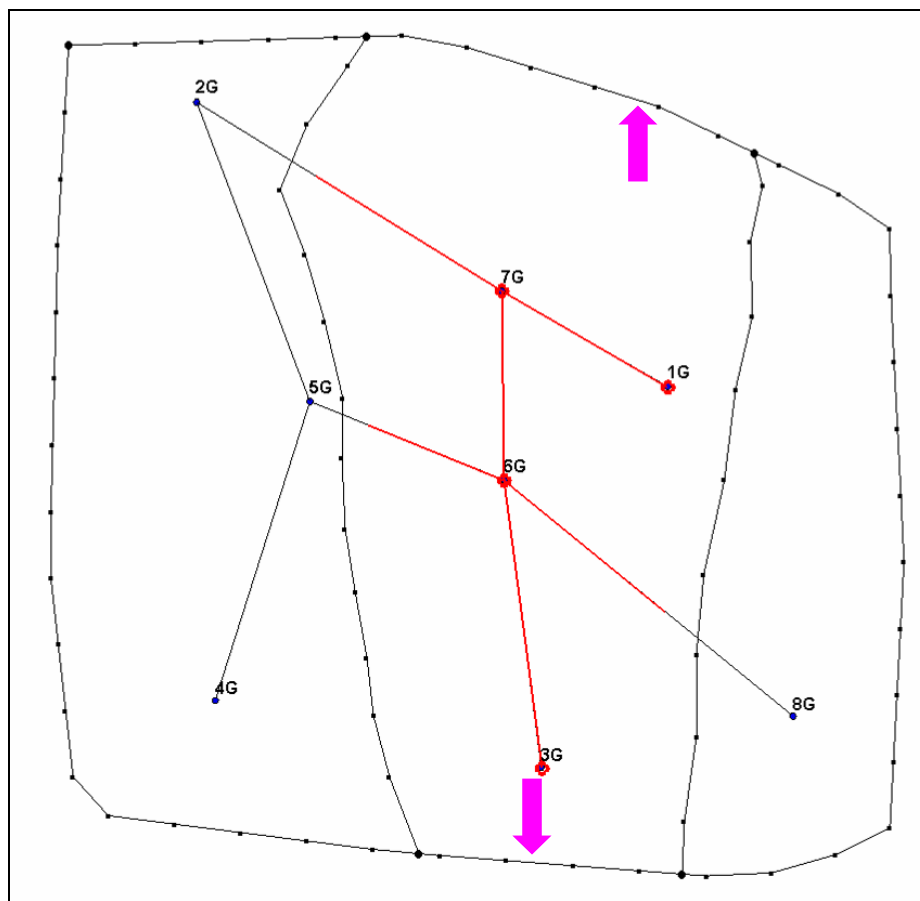

Figure 5.3. Arcs to be marked as on the outside boundary.
2. While holding down the shift key, select the 2 arcs identified by the arrows shown in Figure 5.3.